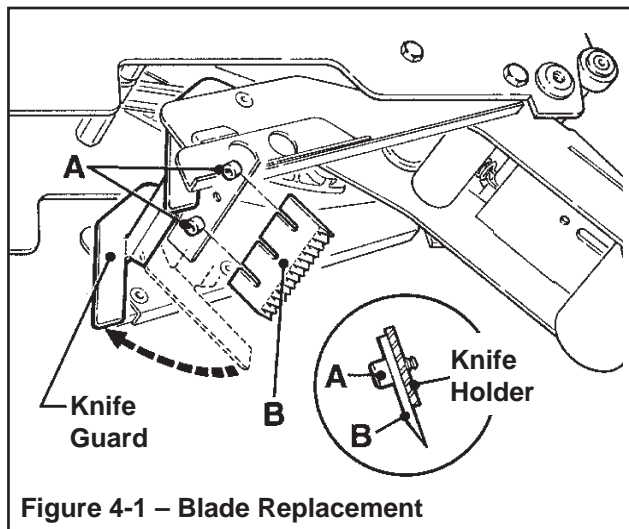

Figure 4-1 – Blade Replacement
**Blade Replacement, Upper and Lower Taping Heads – Figure 4-1**
1. Loosen, but do not remove, the blade screws (A). Remove and discard old blade.
2. Mount the new blade (B) with the beveled side away from the blade holder.